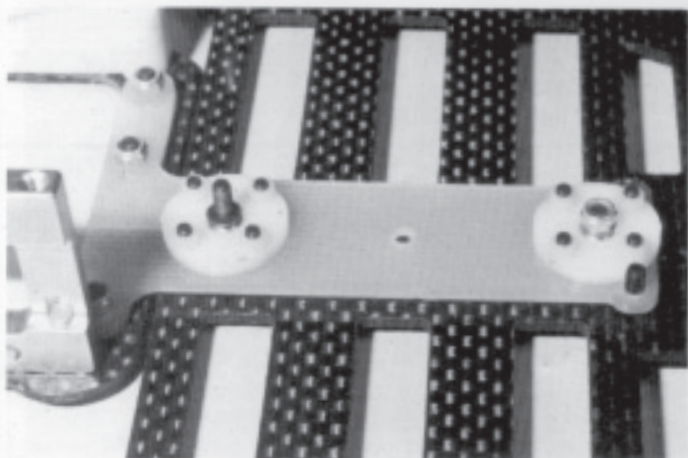

Fig. 27
□ Figs. 26, 27 & 28 Now we are ready to install the rear end assembly onto the chassis. Slip the short #6922 4-40 x 1/2" FHC Screw (from bag #4) up through the forward T-bar mounting hole (second hole from the back), then slip the T-bar down onto the screw. Now install the #4449 4-40 small aluminum locknut and tighten. In the same bag you will find one #6923 4-40 x 3/4" FHC Screw. Install this through the rear chassis hole and pivot ball from the bottom. In bag #3 you will find the #4441 aluminum lower dampener post and #4440 4-40 x 1/2" set screw. Thread the #4441 aluminum post onto the #6923 screws on top of the T-bar, and tighten the screw. Now screw a little less than half of the #4440 set screw into the aluminum tube as shown in Fig. 27. Fig. 28 shows the completed T-bar and rear pod assembly installed.